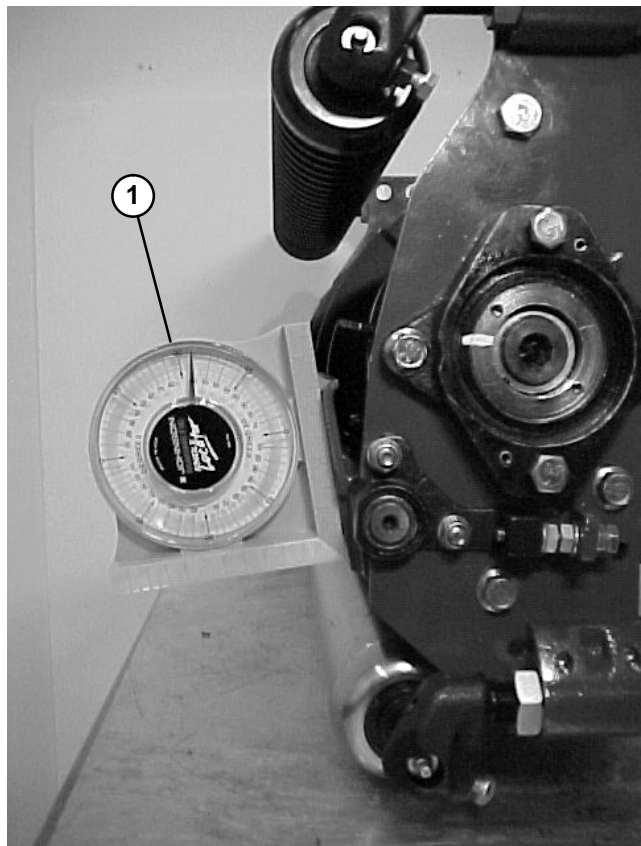

Figure 15
2. Place an angle indicator, Toro Part No. 99-3503, on the bedknife and record the bedknife angle (Fig. 15).